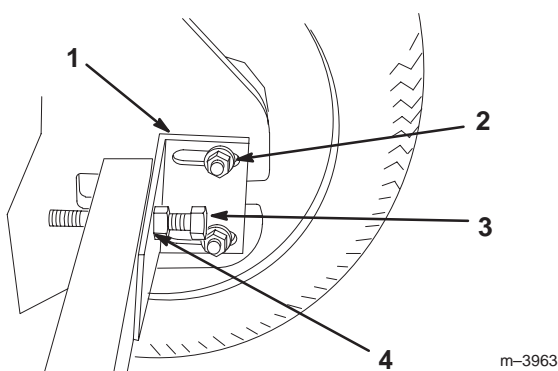

Figure 23
3. Loosen the nuts securing the axle retaining bracket (Fig. 23).
4. Loosen the nut on the chain tensioning bolt and loosen the bolt (Fig. 23).
7. Position the axle retaining bracket tight against the axle and the frame, then tighten the nut on the bolt to secure it in place (Fig. 23) and torque the nut to 30 ft-lbs (40.7 N·m).